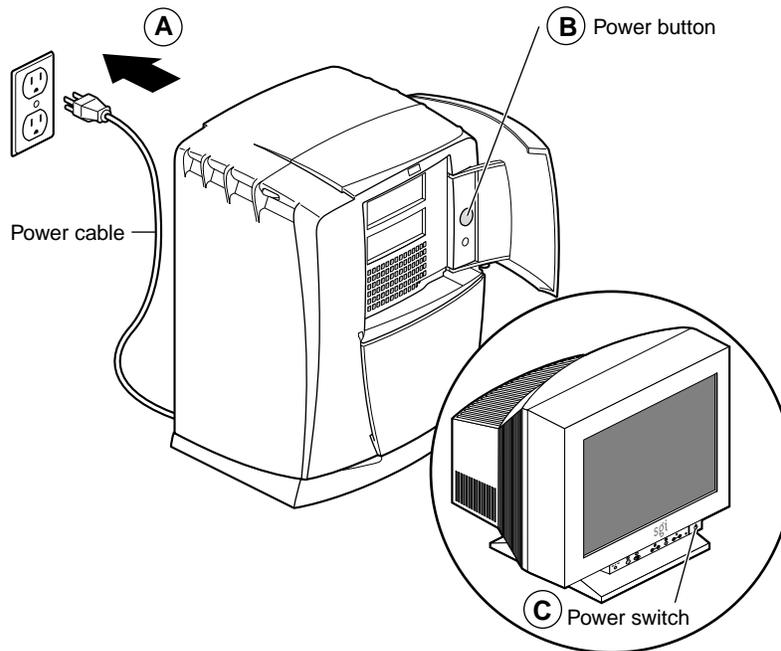

Figure 6-9 Powering On the Octane2 Workstation
1. Plug in the power cable (see A in Figure 6-9).
3. Press the power button (B) on your workstation.
4. Press the monitor power switch (C) to power on your monitor.